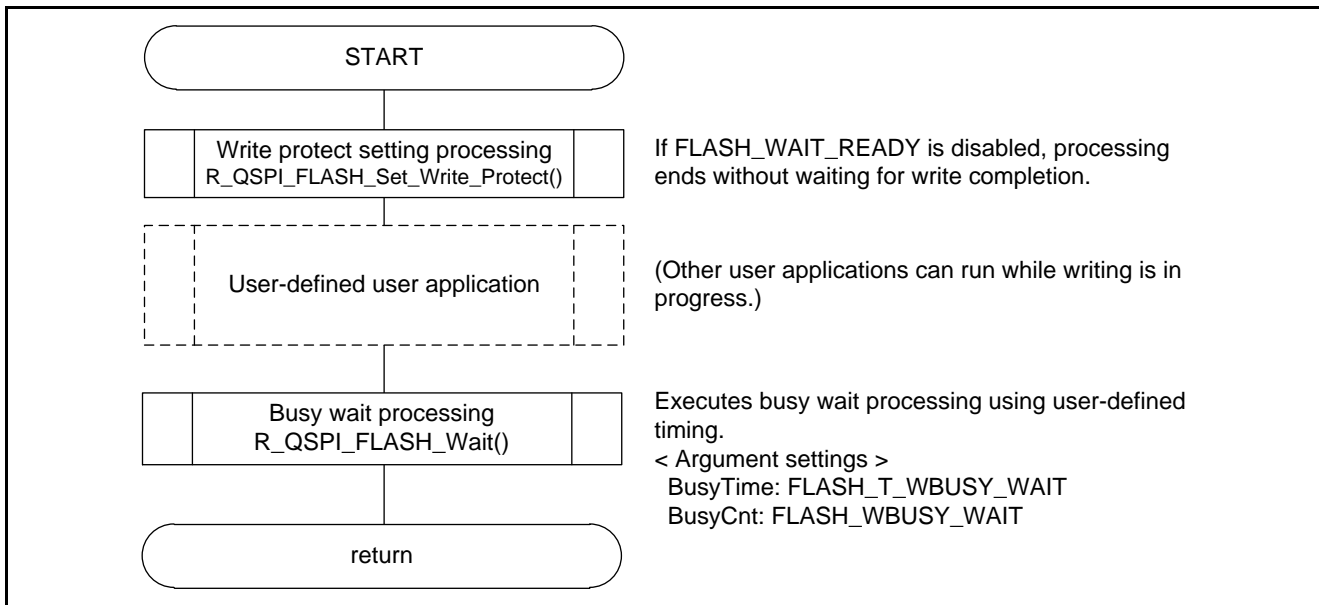

Figure 5.12 Using R_QSPI_FLASH_Wait() to Wait for Write Protect Setting Completion
- To wait for write completion without using the user API, disable FLASH_WAIT_READY in r_qspi_flash_n25q.h and call R_QSPI_FLASH_Wait() after processing by the user API finishes. This processing method allows the use of a user-defined duration when waiting for write completion. Refer to figure 5.12 for the usage method.